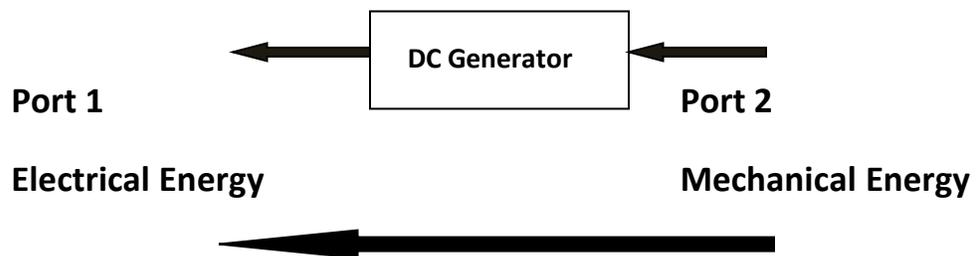

Fig. 4.2
- A DC generator is a device that converts mechanical energy into dc electrical energy. As shown in fig. 4.2